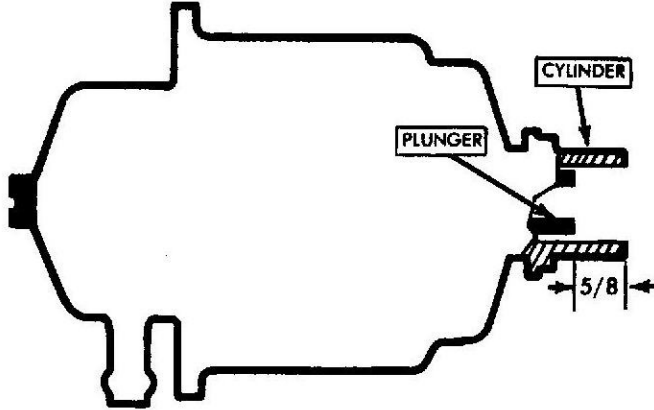

Fig. 2 Vacuum Modulator
(2) Measure distance of plunger travel with maximum vacuum applied. Distance from plunger to edge of cylinder should measure approximately 5/8 inch (see Fig. 2).